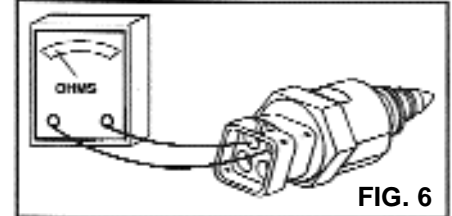

FIG. 6
8. On IAC motors with a four-pin electrical terminal, connect an ohmmeter first between both adjacent terminals and then between the diagonal terminals. Polarity is not important. With the ohmmeter set on the low ohms scale, a reading over 20 ohms should be obtained one way and an infinite reading the other way (Fig. 6). If both readings are infinite or both give a resistance reading, replace the IAC motor.